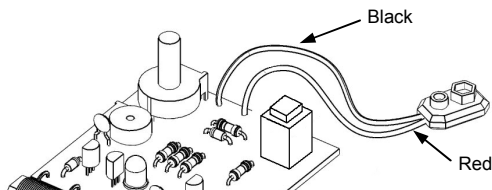

Fig. 2.0
- ❑ Connect the battery terminal to the point marked “+” (red) and “-” (black), see figure 2.0.